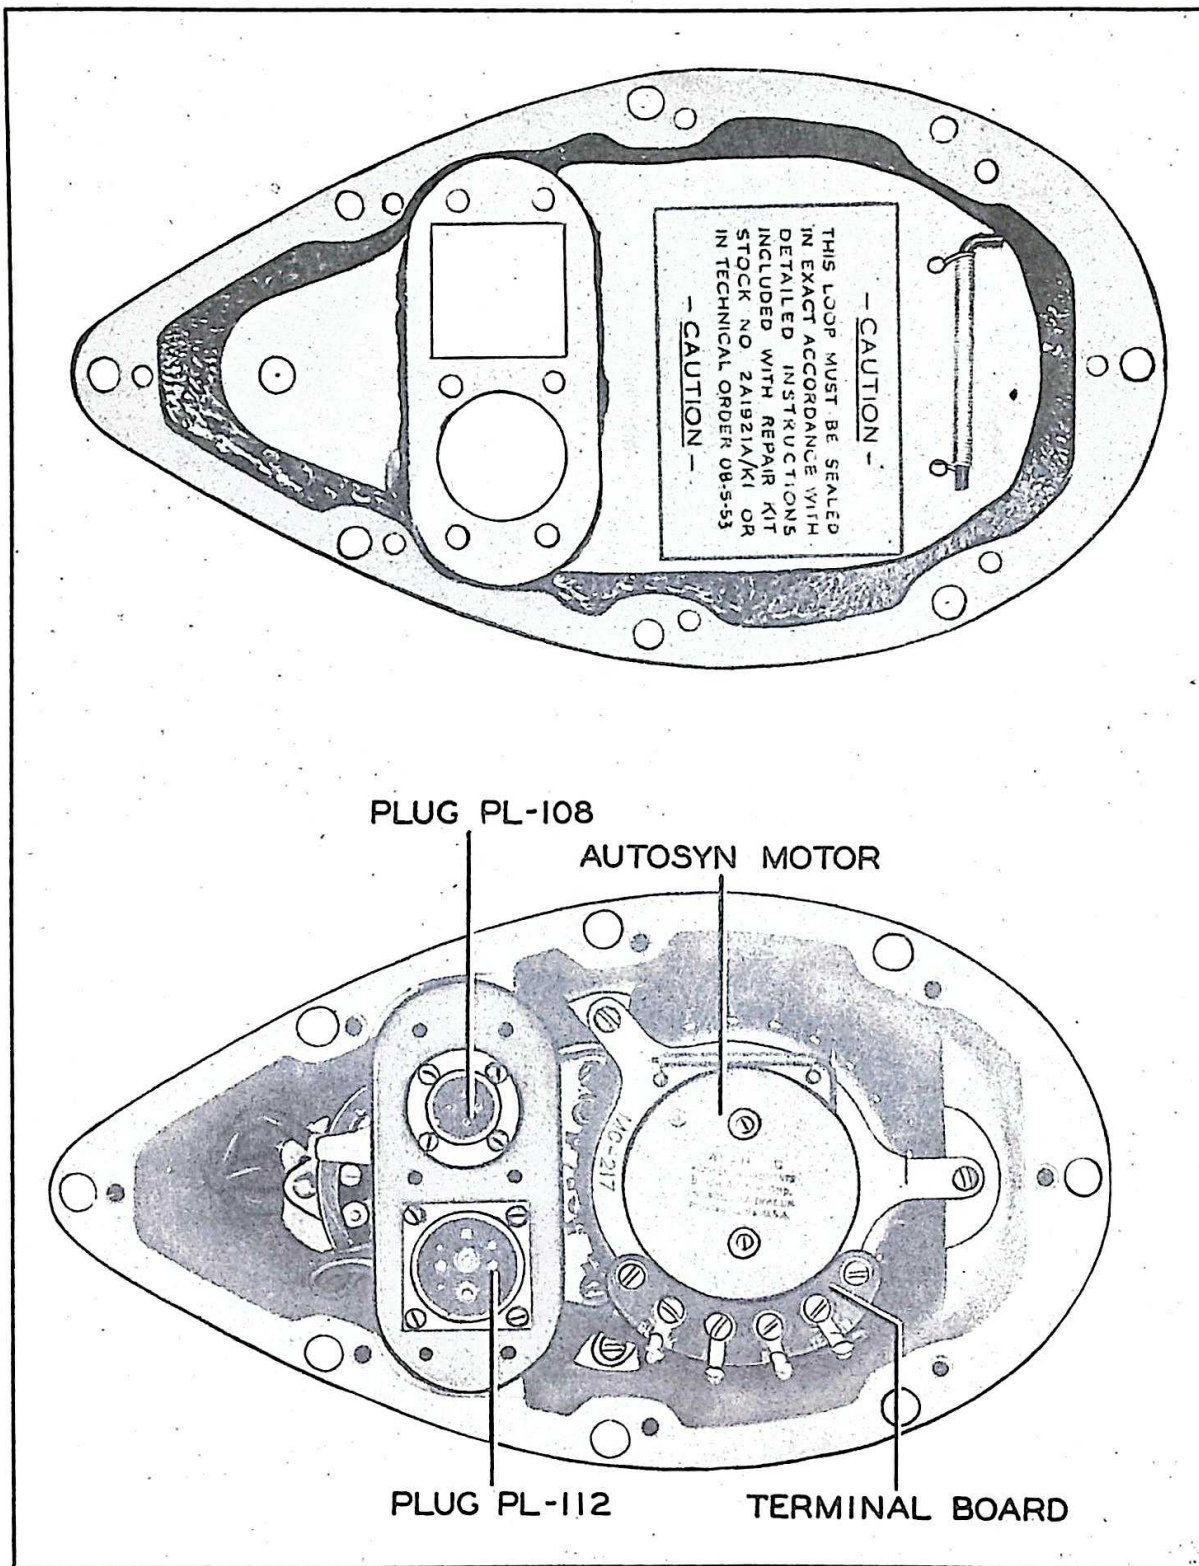
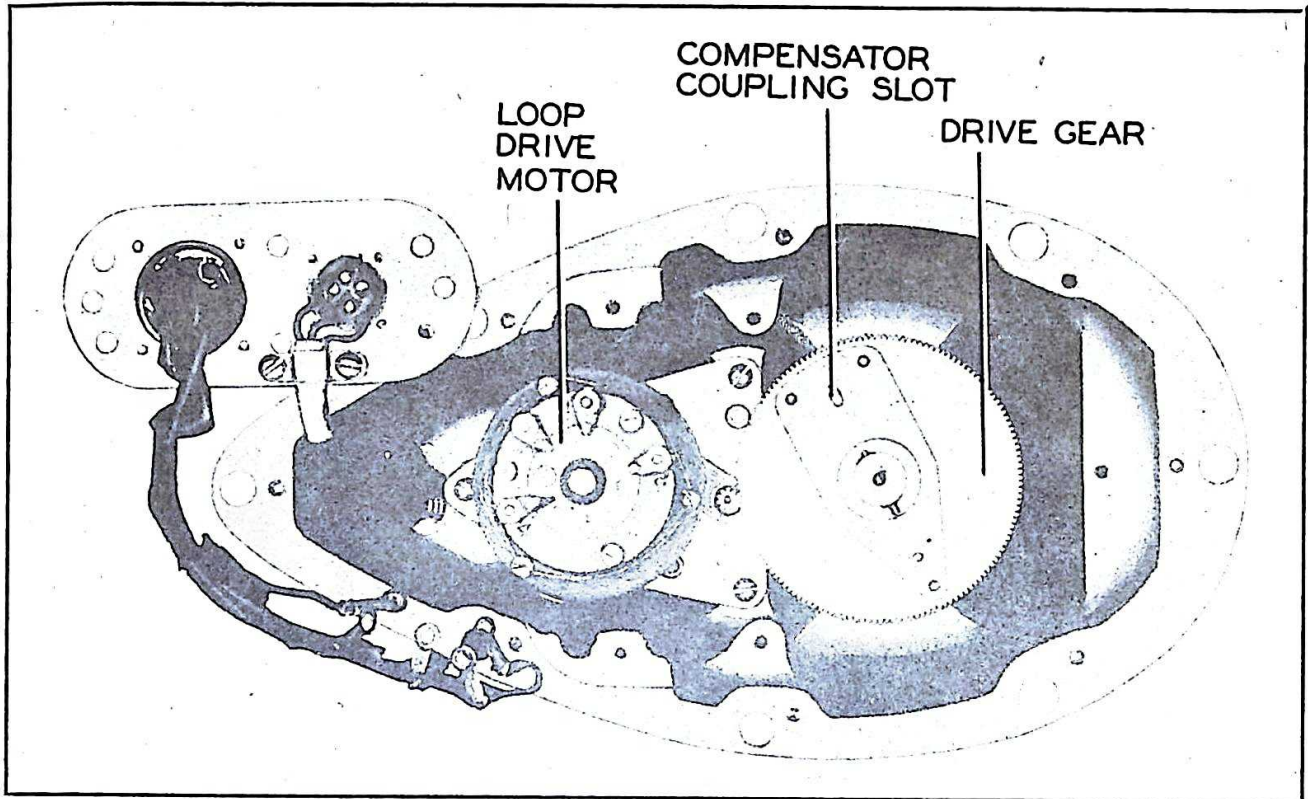
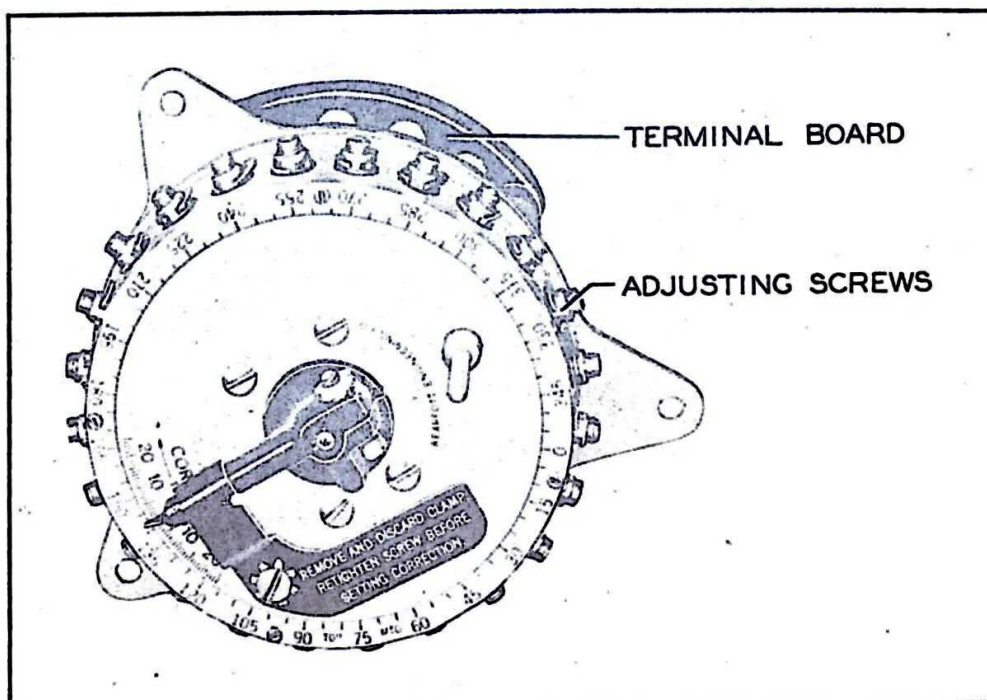

Figure 2-8. Loop LP-21-A—Bottom Plate Removed
Figure 2-9. Loop LP-21-A—Compensator MC-217 Removed
Figure 2-14. Compensator MC-507
(1) Remove Loop LP-21-A, Loop LP-21-AM, and Loop LP-21-LM from the airplane in order to reach the bottom cover plate. Loop LP-31-A or LP-31-AM need not be removed from the aircraft since the bottom cover plate can be reached within the plane.
(2) Remove the bottom cover plate. (See figs. 2-8, 2-10 and 2-12.)
(3) Take out the four screws to disconnect the four connector lugs from the terminal board on the compensator assembly.
(4) Remove the three fillister head mounting screws and lift the compensator assembly from the loop base casting. (See figs. 2-9, 2-11 and 2-13.)
(5) Check to see that no correction is set up on the compensator; but if there is, set the adjusting screws to zero compensation and calibrate again.
(6) Lay the compensator assembly with the azimuth scale up. Check to see that the proper azimuth scale is in place. (See figs. 2-14, 2-15 and 2-16.) The red scale is for belly mounting and black scale is for top mounting. This scale may be changed in the following way:
(7) If a temporary clamp on the compensator holds the pointer at zero, remove and discard this clamp. (See figs. 2-14, 2-15 and 2-16.)
(8) Before adjusting the screws, remove the wrench from its helical spring mounting on the side of the compensator assembly.